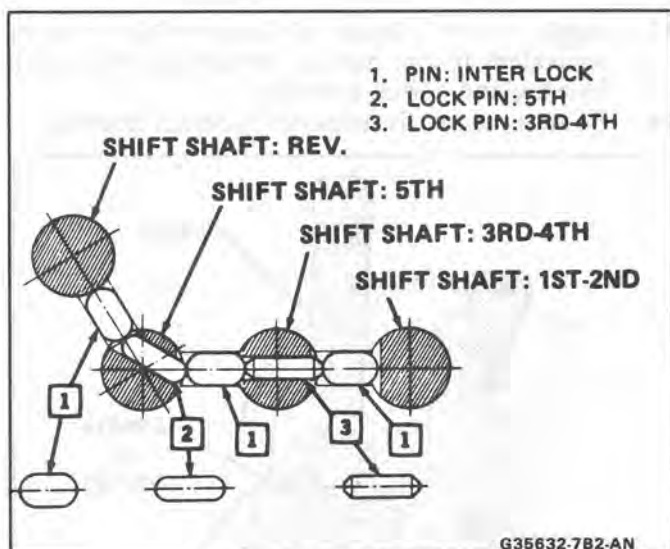

Fig. 37 Interlock Pins
3. Apply grease to three interlock pins, and install them on the clutch housing (Fig. 37).